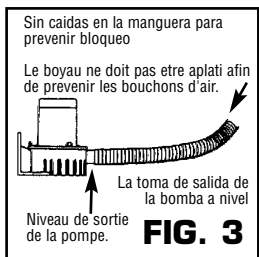

FIG. 3
3. Make sure the pump outlet is level or pointed slightly upward. The discharge hose must have no loops or sags which would cause an airlock - see Fig. 3.